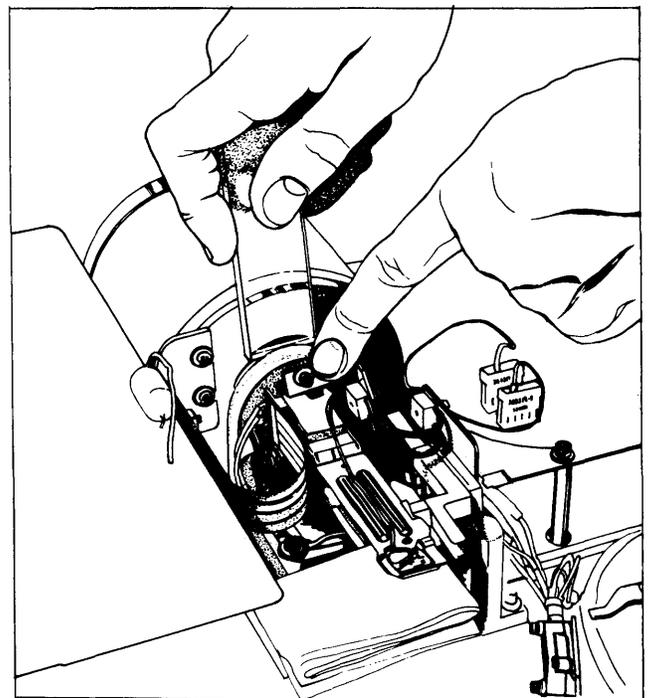

Figure 4-5. Positioner Coil Adjustment
6. Insert the Servo Coil Positioning Gauge between the magnet and the rear of the carriage assembly as in figure 4-5.